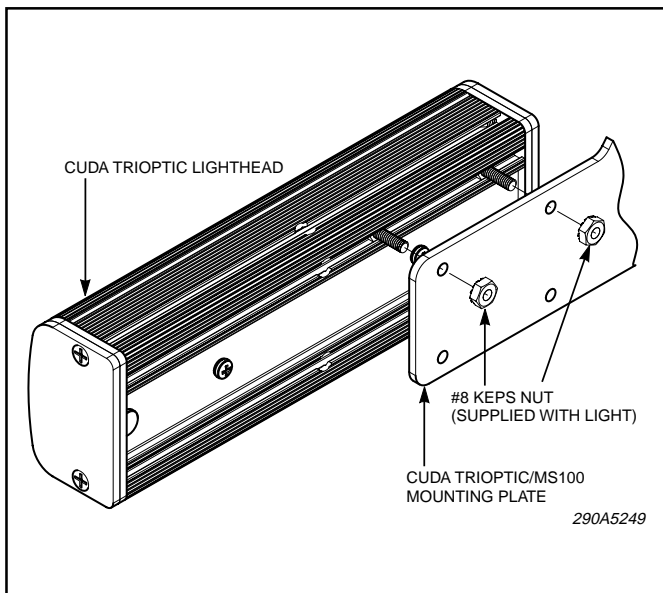

Figure 4.
h. Secure the Cuda TriOptic light heads to the mounting plate using the hardware provided with the light head units. See figure 4.